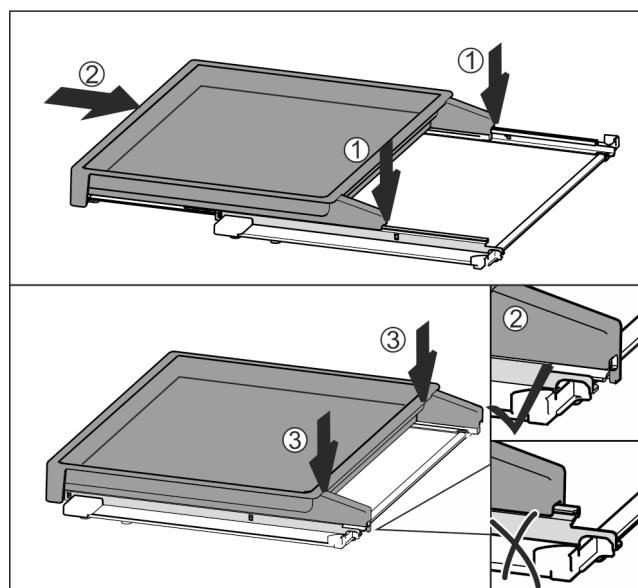

Fig. 113
- ▶ Place centrally on the rails *Fig. 113 (1)*.
- ▶ Slide the pull-out board all the way in *Fig. 113 (2)*.
- ▶ Press down at the back until it clicks into place *Fig. 113 (3)*.